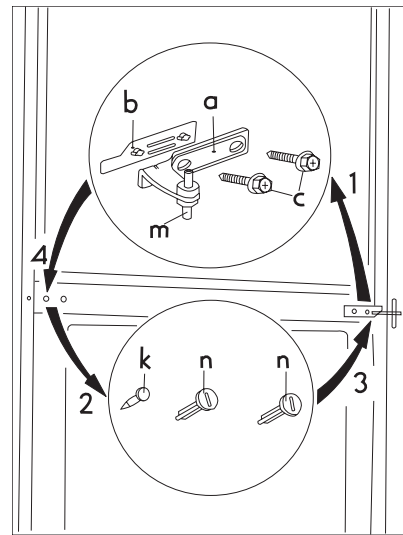

fig. 2.
3. Open the doors and dismantle the double door hinge (a, b) by removing the screws (2 pieces) (c). (fig.2)
4. Take off the double door hinge (a, b, c) by gradually removing it from the cabinet, slightly tilting both doors. Do not forget to remove the plastic spacer (b) under the hinge. (fig.2)
14. Remove the covering nails (3 pieces) (n, k) of the double door holder on the left side and put them to the other side. (fig.2)
15. Fit the pin of the double door hinge (m) into the left drill of the freezer door. (fig.2)